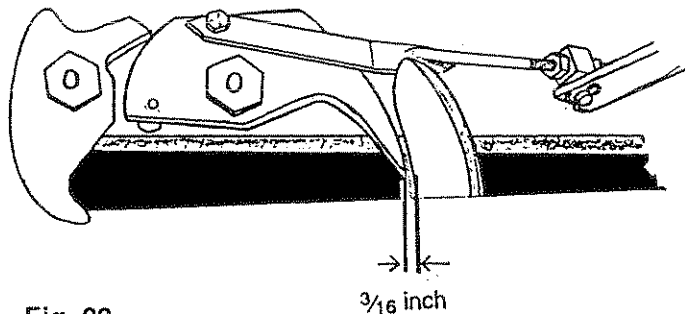

Fig. 22
1. Use the manual operator pendant to advance the knotter until the point of the twine finger is just passing the inside edge of the needle. The point of the twine finger should clear the needle $\frac{3}{16}$ ", see Fig. 22.